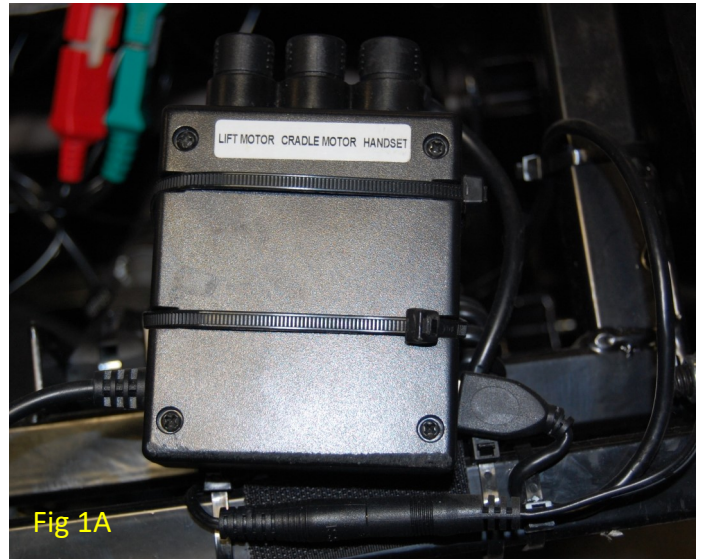

Fig 1A
Step 1 - Place control box (GM3000-CB) as shown. Attach to the frame using a 24" black Ty wrap (BB5518-24TY) as shown in the picture. Fig 1A